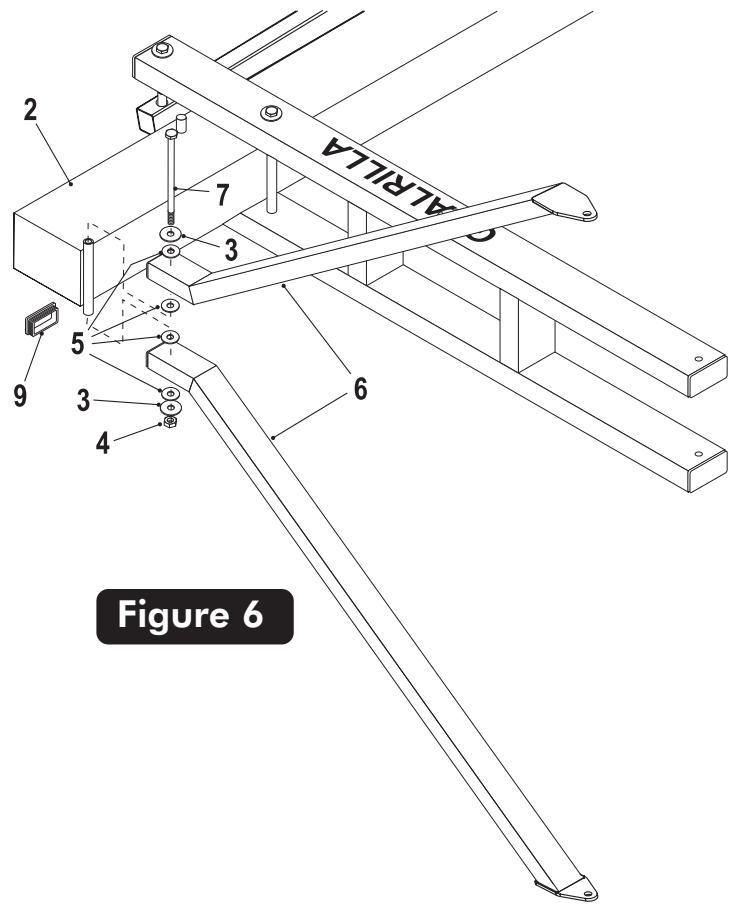

Figure 6
- Attach Upper Arms (#6) to Pole (#2), as shown in Figure 6, using a bolt (#7), two flatwashers (#3), four plastic washers (#5) and hex nut (#4).